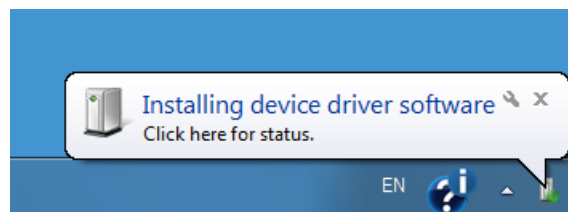

Figure 30: Windows notification indicating device installation.
2. Connect your new Artec 3D scanner to the computer and wait until Windows detects the device and installs the necessary drivers. You may see a notification similar to one shown in Figure 30.